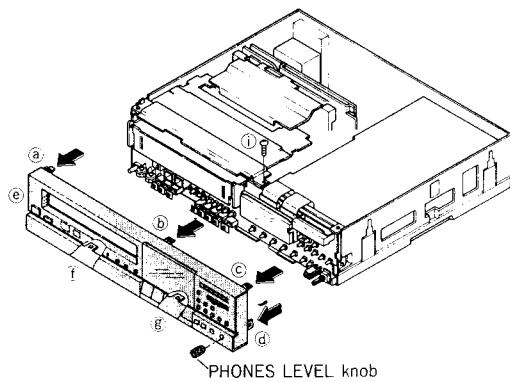

Fig. 2-3
- 3) Remove the screw ⑫ on the top side of the front panel.
- 4) Release the hooks ②, ③, ④, ⑤, ⑥, ⑦, ⑧ and ⑨ and remove the front panel in the direction of the arrows as shown in Fig. 2-3.